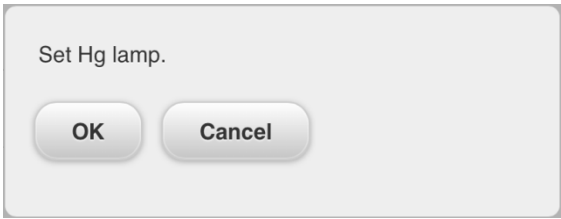

Fig. 6-29 Guidance to Set Hg Lamp
- (2) The guidance in Fig. 6-29 is displayed. Set the Hg lamp at this point. See “5.4.4 Pen-type Low-Pressure Mercury Lamp Holder (optional)” on how to set the pen type low-pressure mercury lamp. If the lamp turns ON after it is set, press the  . Then, the measurement starts.